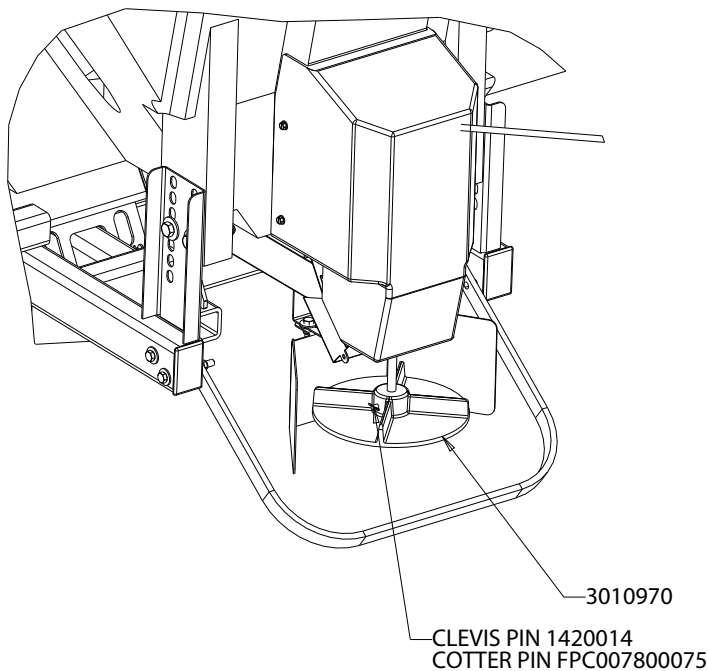

Fig. 9
9. Attach spinner disk to gear motor shaft as shown in Fig.9. Use upper hole in spinner disk. Secure disk on shaft using clevis pin and cotter pin.